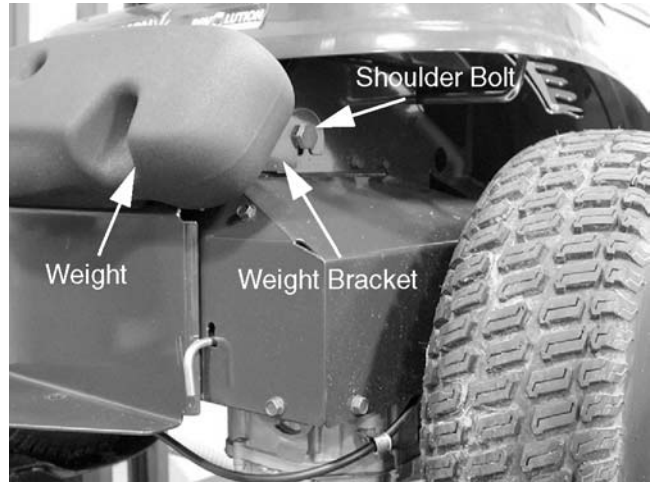

Figure 11-16
11. Lift the weight bracket off of the shoulder bolts on the frame, and set it aside. See Figure 11-16.